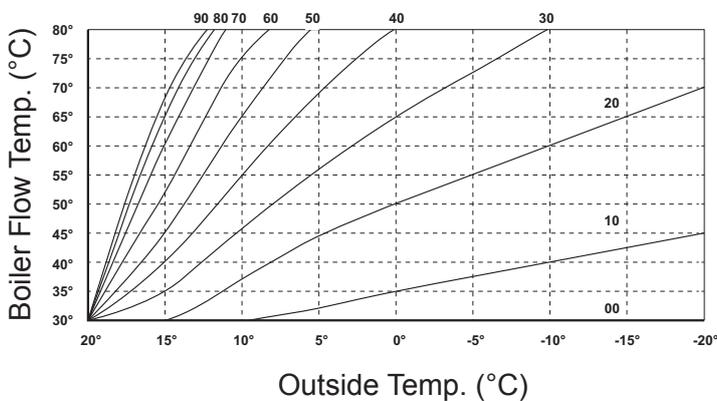

Fig. 19
2. The central heating control knob should be turned clockwise to the position which corresponds with the desired curve as shown on the graph (Fig. 19).
For example, if Curve '40' is selected (Fig. 19), at an outside temperature of 0°C the boiler flow temperature will be 80°C. Consider the type of dwelling and discuss with the user their requirements to determine the most appropriate curve.